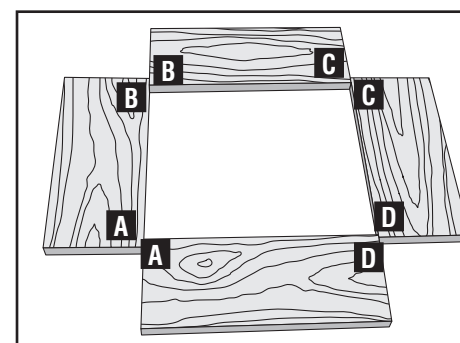

Fig. 18
- STEP 2: Label the corners "A", "B", "C", and "D" (Fig. 18).